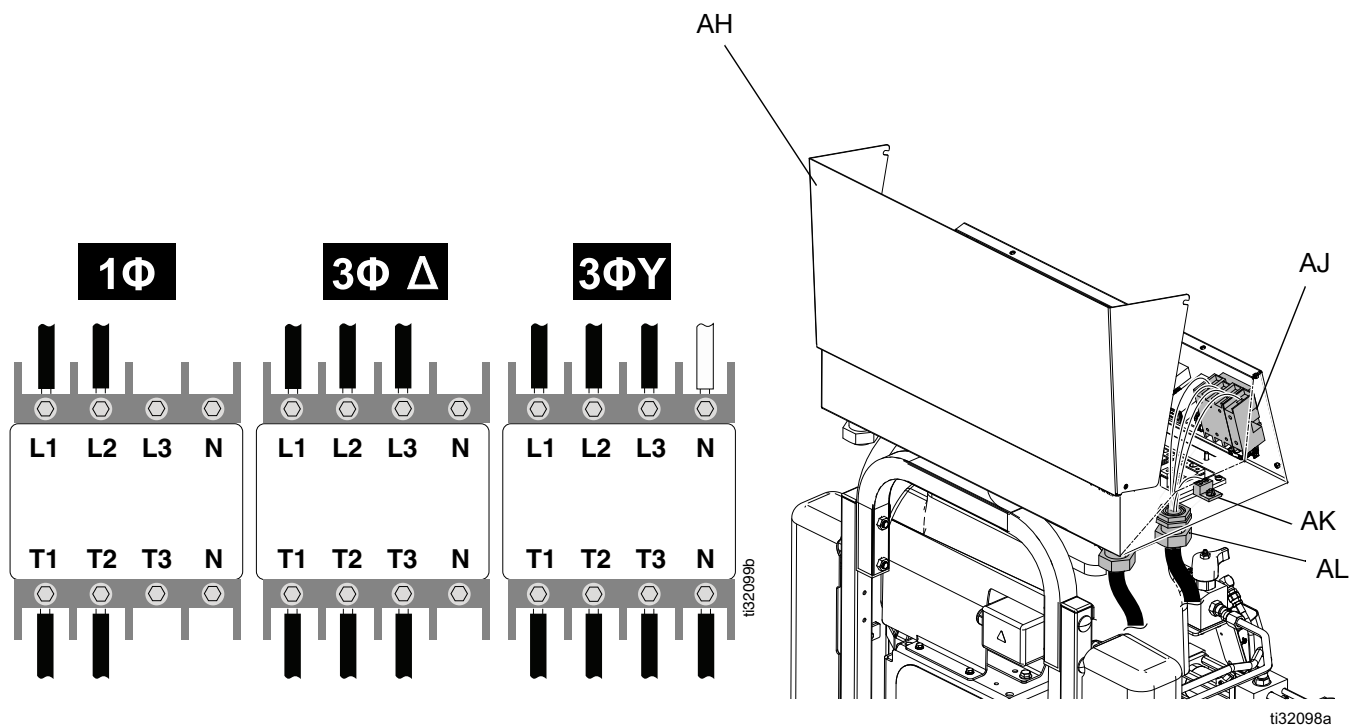

FIG. 8: Connect Incoming Power Wires
2. Turn main power disconnect (CE) to OFF.
3. Open the electrical enclosure door (AH) by loosening the bolts (BH) and lifting the door upwards. See FIG. 8.
4. Route power cable through power inlet cord grip (AL) in electrical enclosure (C). Tighten cord grip (AL). See FIG. 8.
5. Connect incoming power wires to main disconnect terminals (AJ) and main ground lug (AK) as shown in FIG. 8. Torque to 55 in-lbs (6.2 N•m). Gently pull on all connections to verify they are properly secured.
- a. **230 V, 1 phase:** Using 5/32 or 4 mm hex allen wrench, connect two power leads to L1 and L2. Connect green to ground lug (AK).
- b. **230 V, 3 phase:** Using 5/32 or 4 mm hex allen wrench, connect three power leads to L1, L2, and L3. Connect green to ground lug (AK).
- c. **400 V, 3 phase:** Using 5/32 or 4 mm hex allen wrench, connect three power leads to L1, L2, and L3. Connect neutral to N. Connect green to ground lug (AK).
6. Verify all items are connected properly as shown in FIG. 8. Close the electrical enclosure door (AH) and tighten the bolts (BH).